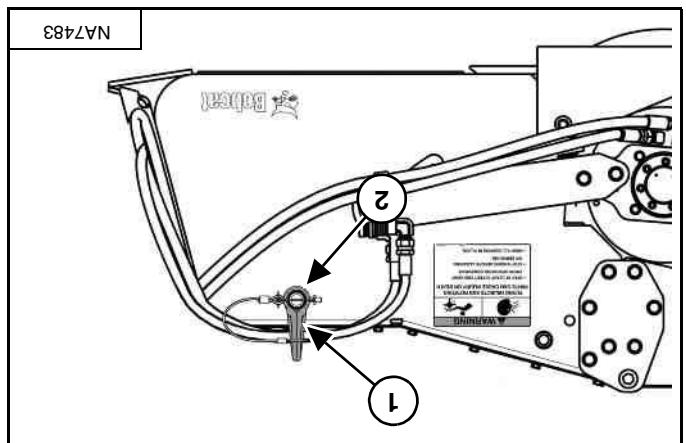

Figure 84
When the sweeper is not connected to the loader, install the removable hose guide (item 1) onto the storage post (item 2) [Figure 84] (if equipped).